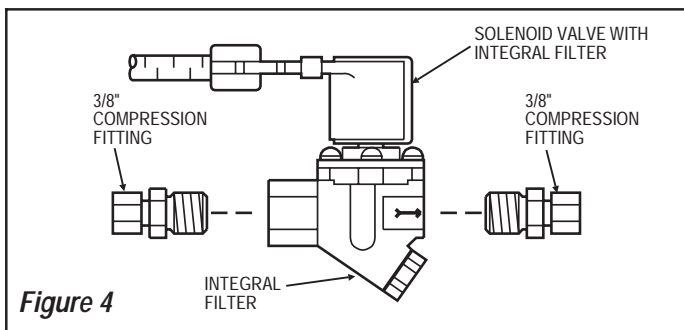

Figure 4
Step 3 — Install Solenoid Valve (Figures 4, 5 and 6)
Important: DO NOT install solenoid so that the solenoid coil is facing down. The solenoid valve may be oriented so that the solenoid coil faces sideways (vertically); however, optimum performance is obtained when solenoid valve is in the horizontal position with the solenoid coil facing up as shown in Figure 4.